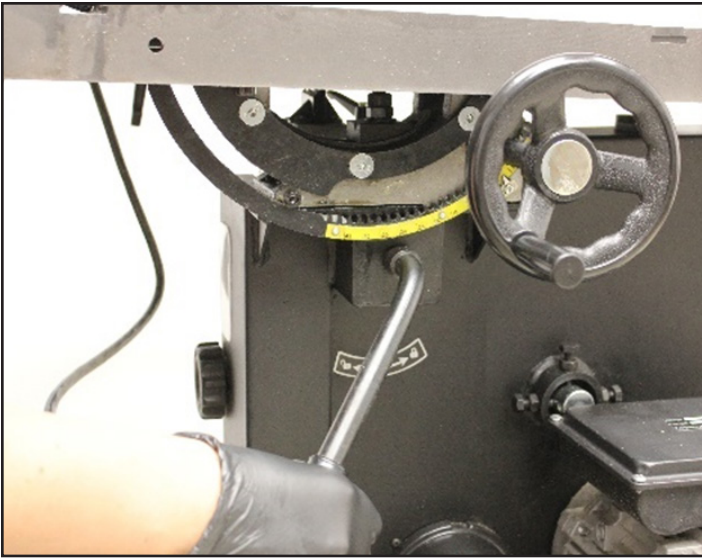

Figure 15: Adjusting the Table Tilt.
- At the rear of the saw, turn the Locking Handle on the table trunnion counterclockwise to loosen it, see Fig. 15.